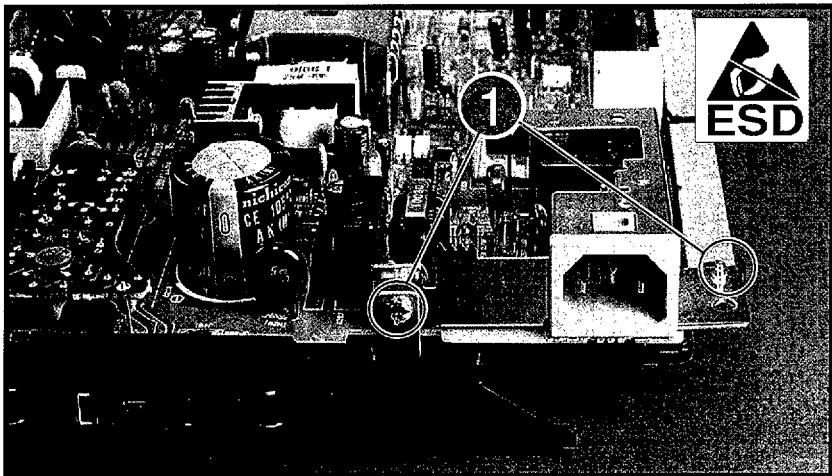

Figure 6-38 Machine Screw Locations (DC Controller PCA)
3. Remove the (2) machine screws (Figure 6-38, callout 1).